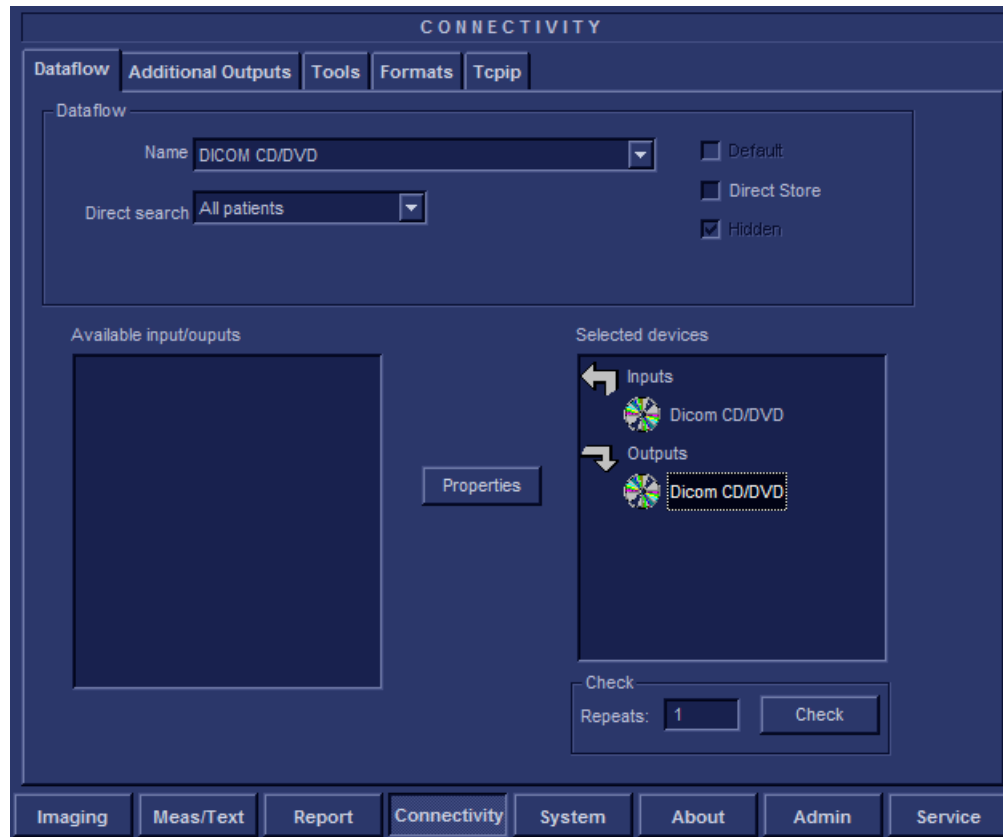

Fig. 1-1 - Select DICOM CD/DVD
4. Under the Dataflow tab, in the "Name" combo-box field, select DICOM CD/DVD (or DICOM Memstick) as shown in Fig. 1-1.